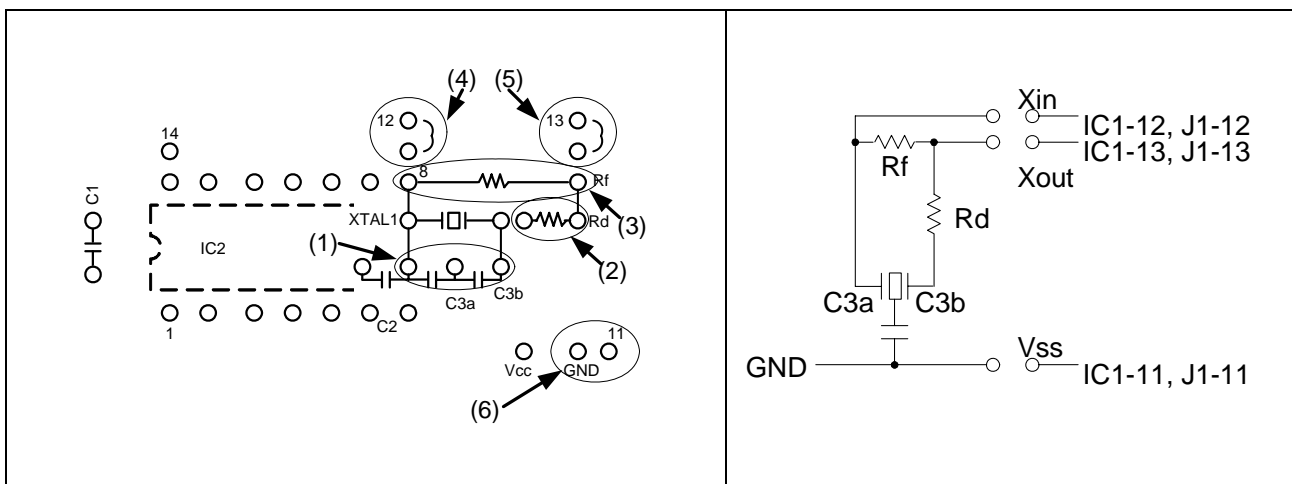

Figure 4 When using 3-pin type oscillator
**(3) When using 3-pin type oscillator**
When using a 3-pin type oscillator, follow the procedure below (see (1) to (6) in Figure 4).